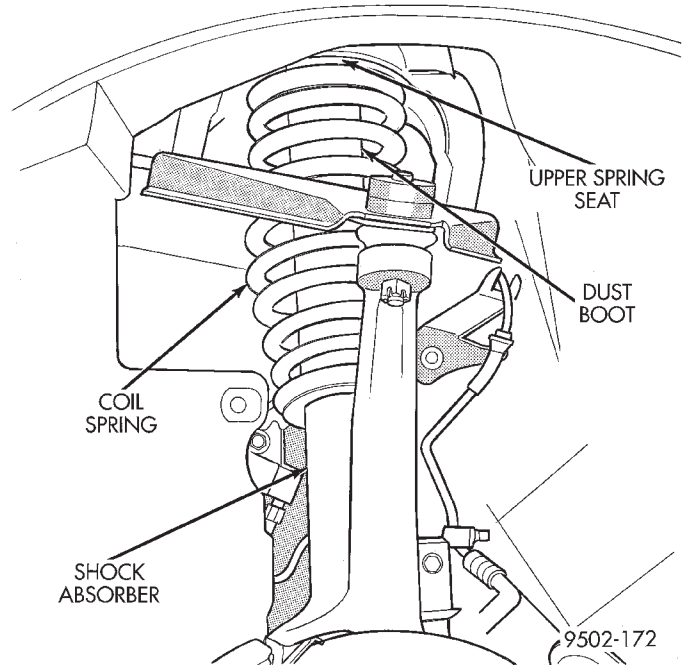

Fig. 1 On Vehicle Inspection
- (1) Inspect for damaged or broken coil springs (Fig. 1).
- (2) Inspect for torn or damaged shock absorber dust boots (Fig. 1).
- (3) Lift the dust boot and inspect the shock absorber for evidence of fluid running from the upper end of fluid reservoir. (Actual leakage will be a stream of fluid running down the side and dripping off the lower end of the shock absorber). A slight amount of seepage between the shock absorber rod and the seal is not unusual and does not affect performance of the shock absorber. Also inspect jounce bumpers for signs of damage or deterioration (Fig. 1).